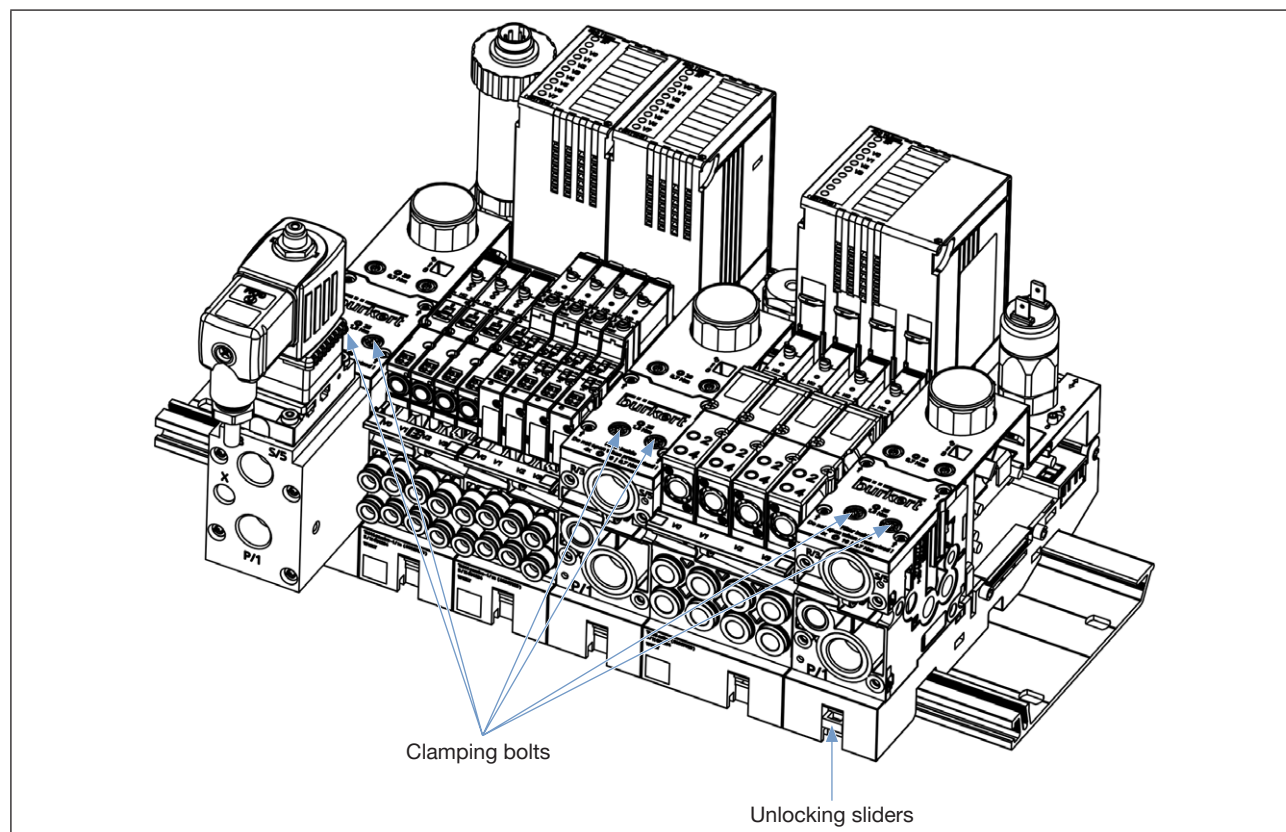
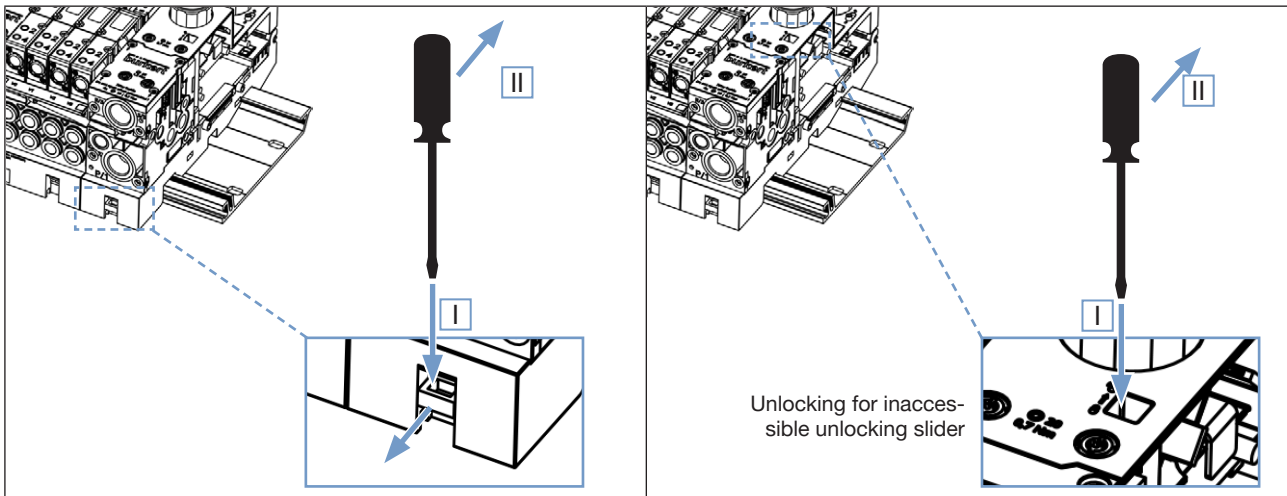

Fig. 45: Clamping bolts, unlocking sliders; means for operating the unlocking slider
Fig. 46: Operating unlocking slider
- Carefully turn all clamping bolts (see “Fig. 45”) on the connection segments counterclockwise until they stop.
- Loosen all clamping bolts (see “Fig. 45”) on the connection segments (carefully turn the clamping bolts counterclockwise until they stop).
- Insert a slot screwdriver into the unlocking slider on the right connection segment (see “Fig. 45” and “Fig. 46”) (I) and tilt (II) the slider out approx. 2 to 3 mm. This opens up the terminal module locked to the right.
- Only REV.2 devices: If the accessibility of the unlocking slider is impeded by an on/off valve, the unlocking slider can also be operated from the front side (see “Fig. 46”). Insert a thin slot screwdriver (shaft with a length of at least 85 mm and a diameter of max. 4 mm) into the opening in the pressure gauge module (I) until it stops and then tilt it slightly upwards (II).